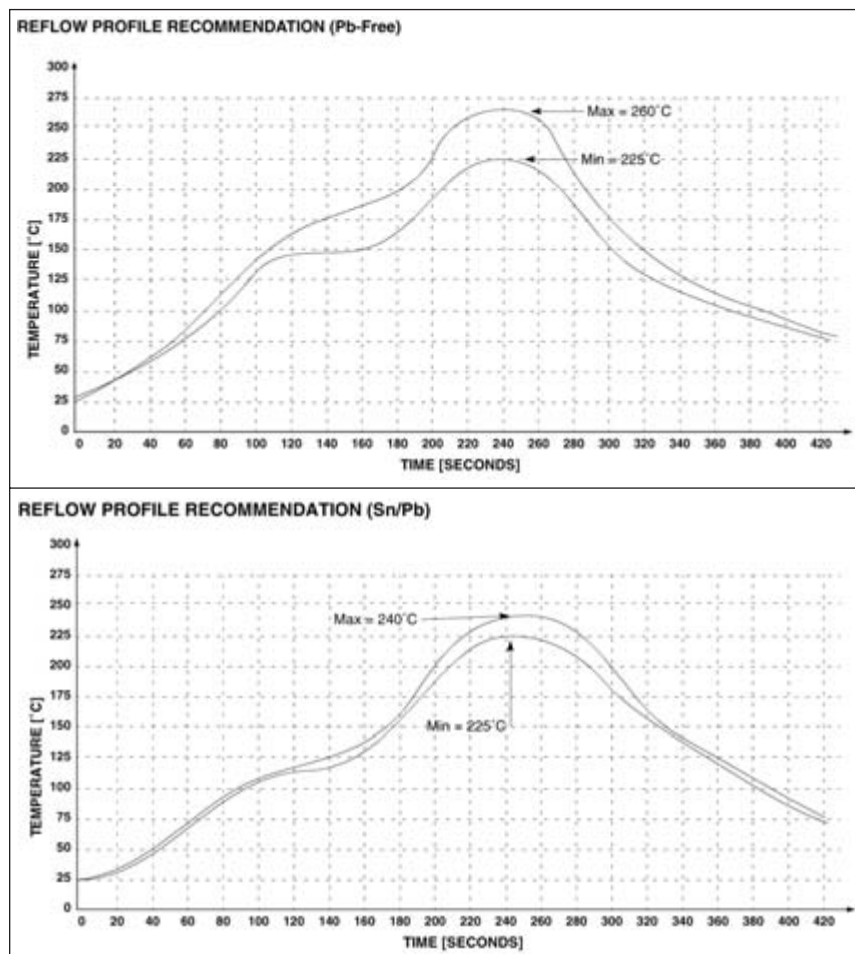

FIGURE 4. Comparison of reflow thermal profiles for tin-lead solder and lead-free solder. *Courtesy of Microchip Technology*
A. A thermal profile for lead-free solder paste was recommended by Ravi Sharma of Microchip Technology in Application Note 233. The lower control limits for tin-lead solder and lead-free solder were similar, but the upper control limits were slightly higher for lead-free solder (**FIGURE 4**). The comparison was made with the assumption that matte tin and tin-lead was the finish on the components. Factors that influence thermal profiles are circuit board thickness, interconnect density, surface finish and compatibility of the